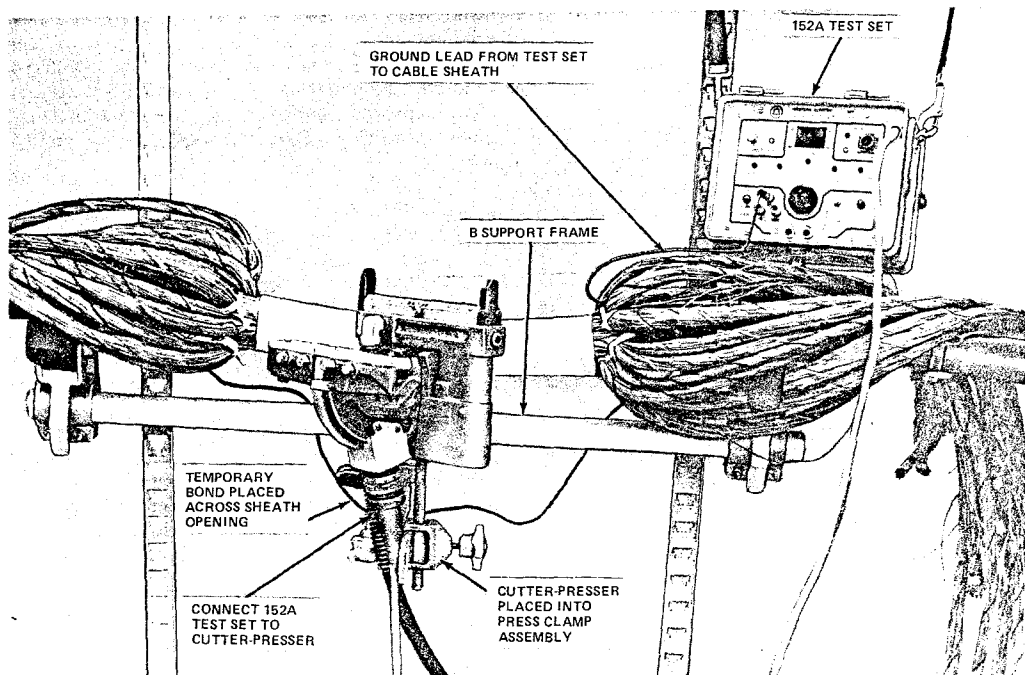

Fig. 41—Setting Up 152A Test Set
5.04 Connect the test cord from test set to connector located on T-bar of cutter-presser. Connect ground lead from test set to cable sheath (Fig. 41).